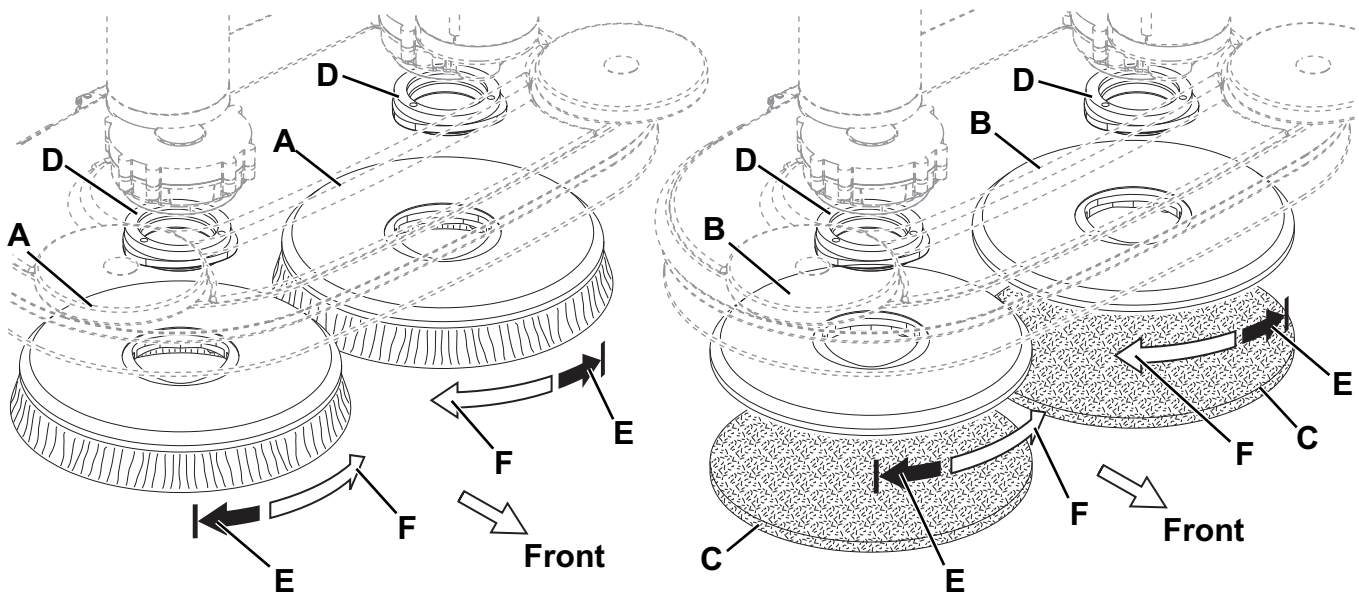

Figure 1
According to the kind of cleaning to be performed, the machine can be equipped either with brushes (A, Fig. 1) or pad-holders (B) with pads (C) together with the appropriate deck.